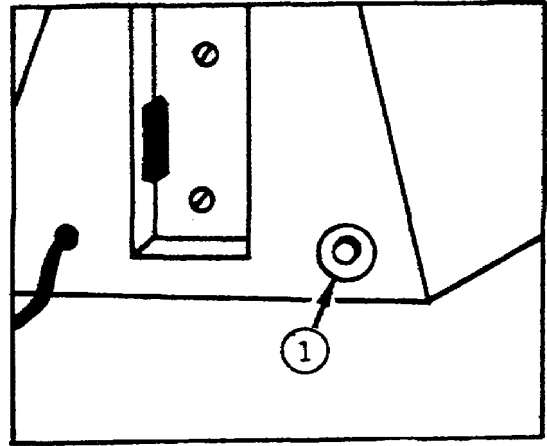

Figure 1-13. Fuse Holder.
j. Fuse Holder (fig 1-13). The Fuse Holder ① - is located on back side of the REPRONAR base. It uses a 1.5 amp slow-blow fuse. If the unit is plugged into a live electrical outlet but does not operate, check this fuse first.